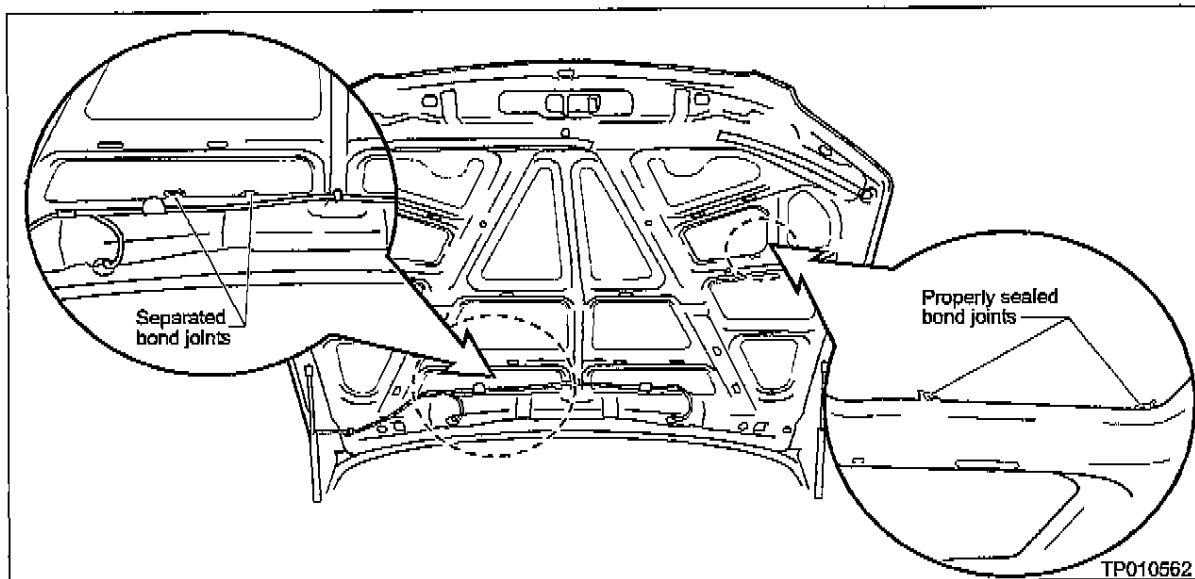

Figure 1
2. Visually examine all the adhesive/mastic bond joints between the hood sheet metal and hood inner structure (see Figure 1 for examples of separated bond joints and properly sealed bond joints).